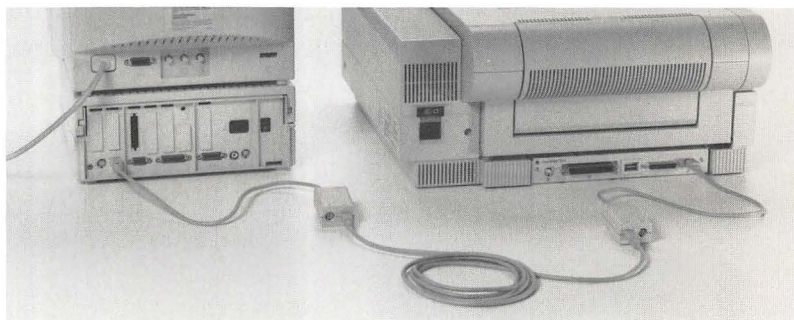

Figure A-1 Connecting an Apple IIGS computer
As shown in Figure A-1, the LocalTalk port is on the right side of the connector panel.
4. Connect the two connector boxes with a LocalTalk cable. (See Figure A-1.)